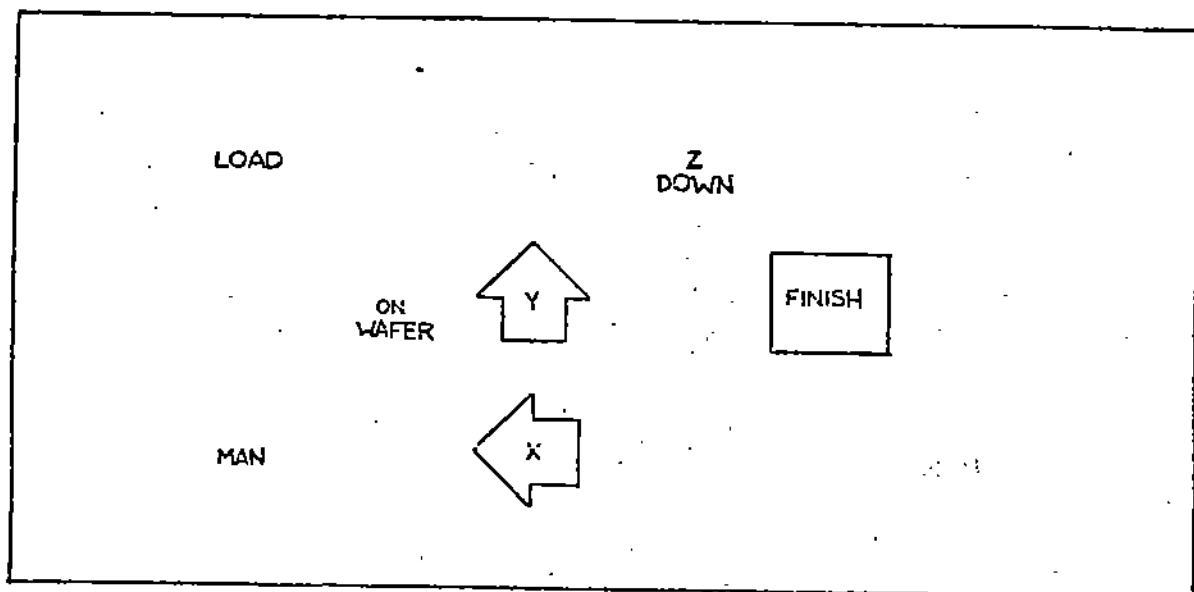

Figure 2-9. Display Panel (Auto)
- h. Verify Status Display Panel agrees with Figure 2-9.